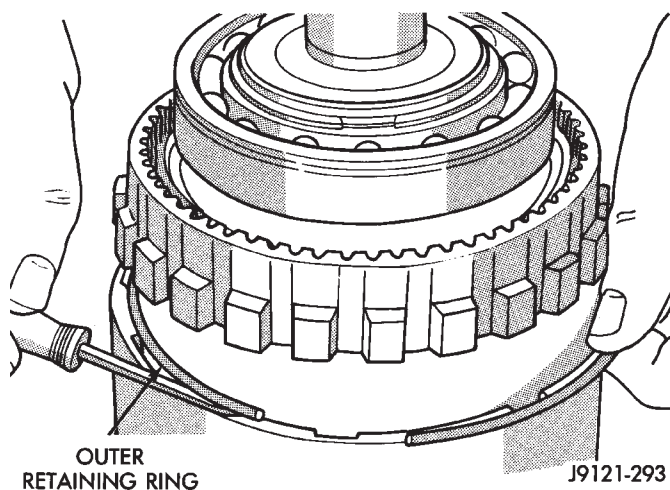

Fig. 324 Removing Clutch Drum Outer Retaining Ring
(17) Remove direct clutch drum outer retaining ring (Fig. 324).